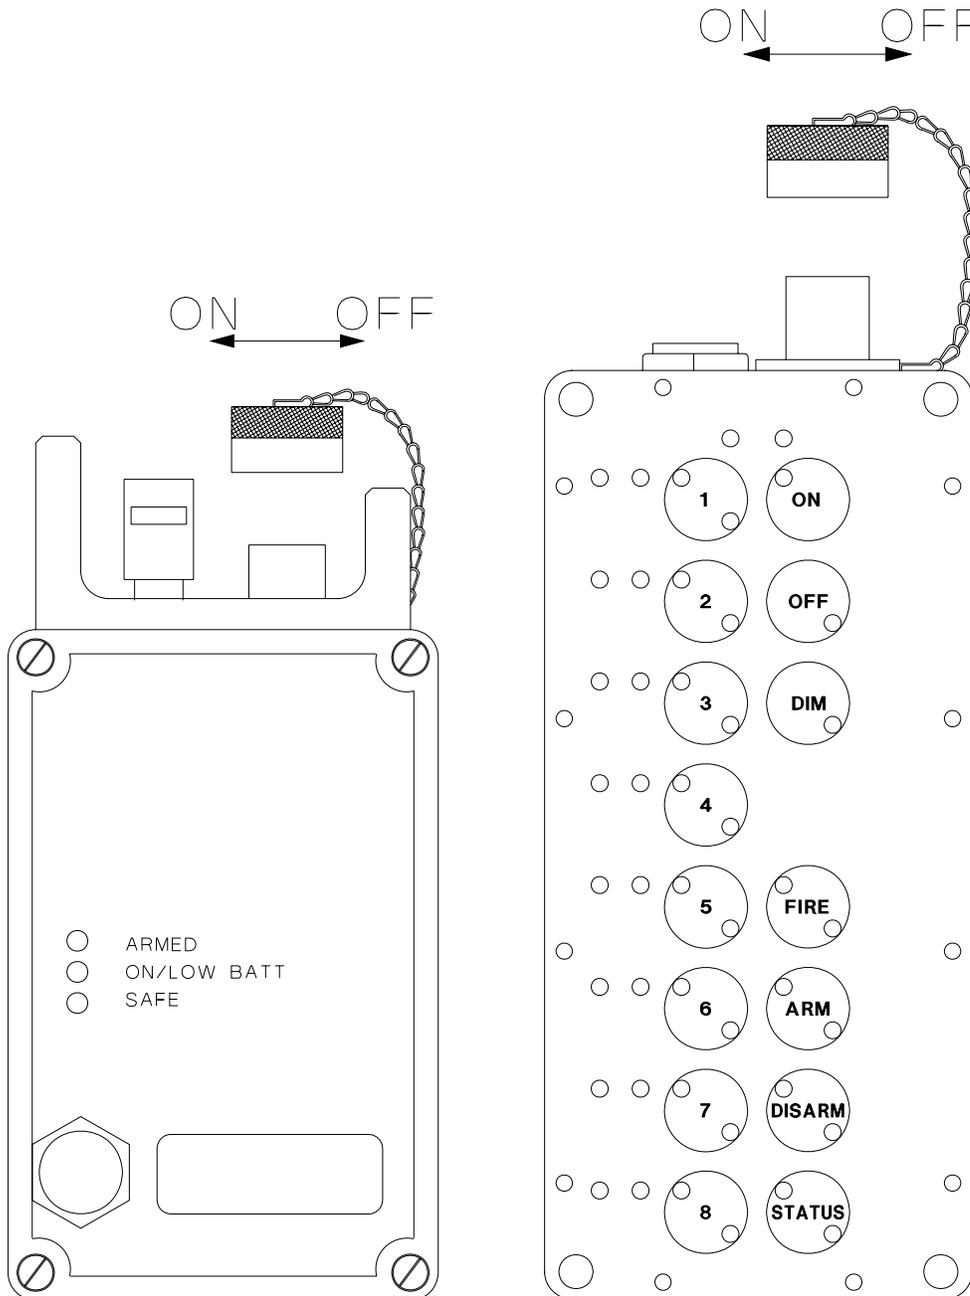

Figure 2-14 Connector Dust Cover Operation.
2.13.1. Figure 2-14. The Controller Unit and Remote Unit antenna / battery charger connector dust cover protects the connector pins from shorting out and damage when the Antenna Assembly or Battery Charger Assembly is not connected. The connector dust cover should be connected to the connector when the connector is not in use.